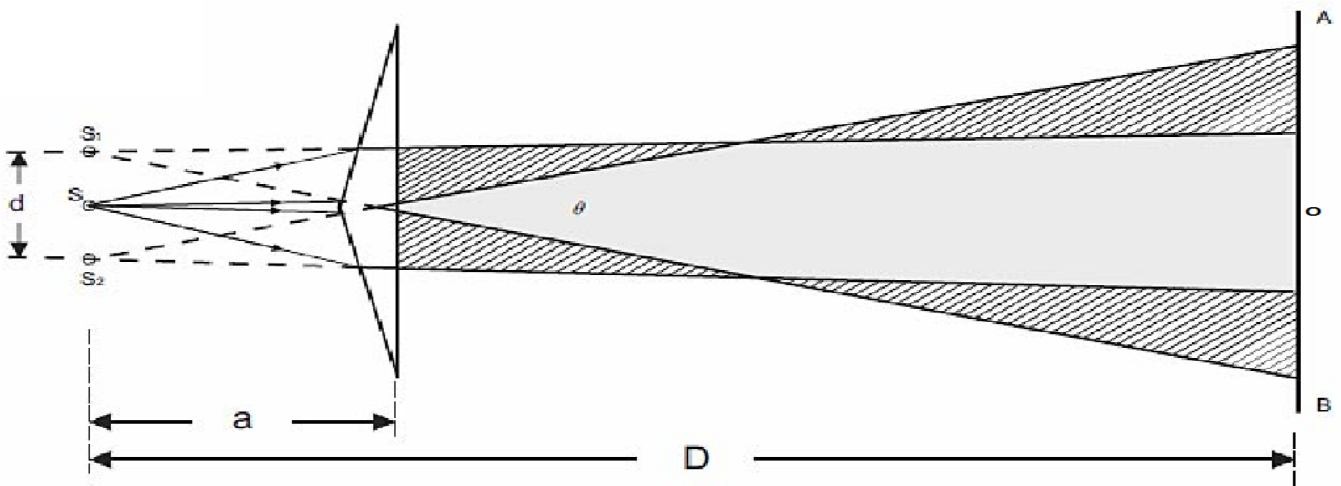

Fig. 1: Formation of two coherent virtual sources from a single slit
- 2) When rays from a slit S illuminated by a monochromatic light, such as sodium light are incident on the biprism, the emergent rays from the two halves appear to diverge from two coherent virtual sources, S_1 and S_2 (see Fig. 1).
- 3) If a screen (AB) is placed with its plane perpendicular to that containing the slit and the common base of the biprism, the emergent beams of light overlap on the screen producing alternate dark and bright fringes.